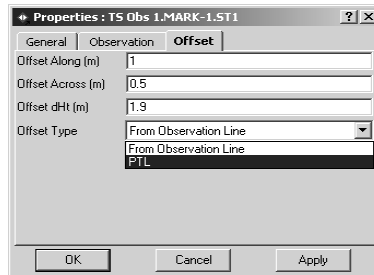

Figure 4-39. TS Properties – Offset Tab
2. On the *Properties* dialog box, click the *Offset* tab (Figure 4-39).